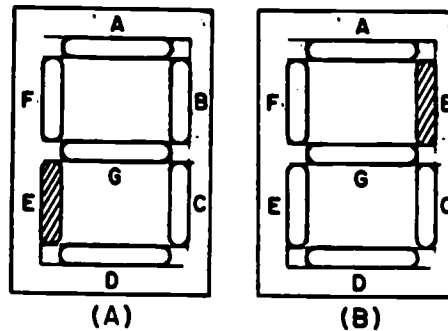

Fig 3-29. Seven segment LED display examples.
LEDs are used widely as "power on" indicators of current and as displays for pocket calculators, digital voltmeters, and frequency counters. For use in calculators and similar devices, LEDs are typically placed together in seven-segment displays, as shown in figure 3-28. This display uses seven LED segments, or bars (labeled A through G in the figure), which can be lit in different combinations to form any number from "0" through "9." The schematic, view (A), shows a common-anode display. All anodes in a display are internally connected. When a negative voltage is applied to the proper cathodes, a number is formed. For example, if negative voltage is applied to all cathodes except that of LED "E" the number "9" is produced, as shown in view (A) of figure 3-29. If the negative voltage is changed and applied to all cathodes except LED "B," the number "9" changes to "6" as shown in view (B).